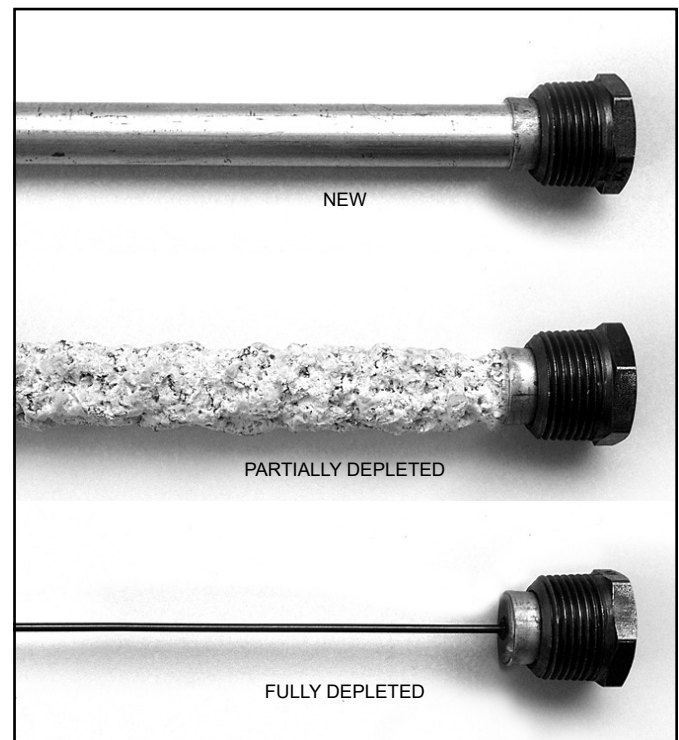

Figure 51.
**Anode Rod.** The anode rod is a sacrificial metal rod that helps avoid corrosion and premature failure (leaks) in the tank. The anode rod is a consumable item. Inspect the anode rod after the first six months of operation when you drain and flush the tank. Replace the anode rod if it is substantially worn out or depleted (see Figure 51). Thereafter, inspect the anode rod annually or more frequently if needed. If you use a water softener, your anode rod will deplete faster than normal. Inspect the anode rod more frequently, replacing the anode rod if it is depleted. Once the anode rod is depleted, the tank will start to corrode, eventually developing a leak. Obtain a new anode rod from your local plumbing supplier or have a qualified person replace it. (Anode rods are a consumable item and are not covered under warranty).